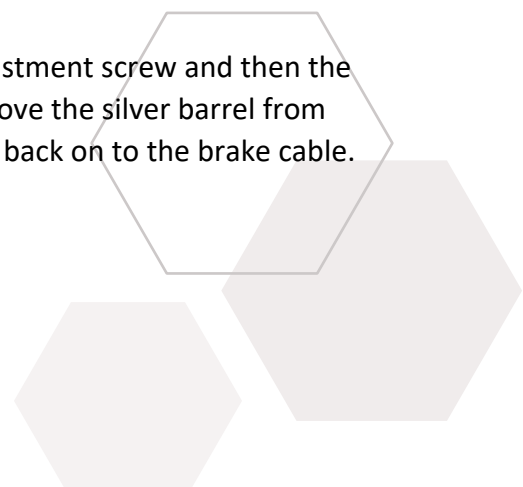

Figure 1a: Drum brake removal and adjustment inquiry
1. Take note of your current brake adjustment as highlighted in green in figure 1a – the brake cable nut will need to be reinstalled to its current position to function properly again after the tire has been changed.
2. As highlighted in red in figure 1a, first remove the brake adjustment screw and then the cable sleeve from its seat. To ensure easy reinstallation, remove the silver barrel from the drum brake and reinstall it along with the spring and nut back on to the brake cable.